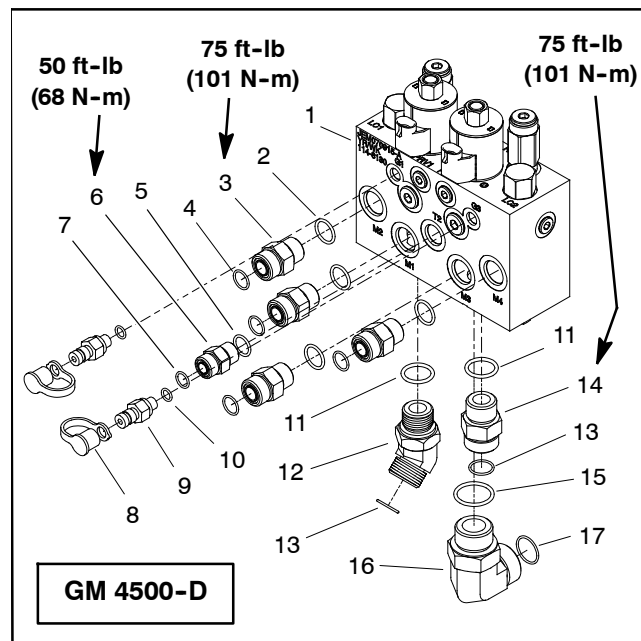

Figure 91
8. If hydraulic fittings are to be removed from control manifold, mark fitting orientation to allow correct assembly (Fig. 91 or 92). Remove fittings from manifold and discard O-rings.
1. If fittings were removed from control manifold, lubricate and place new O-rings onto fittings. Install fittings into manifold ports using marks made during the removal process to properly orientate fittings. Tighten fittings (see Hydraulic Fitting Installation in the General Information section of this chapter). Refer to Figure 91 or 92 for fitting installation torque.